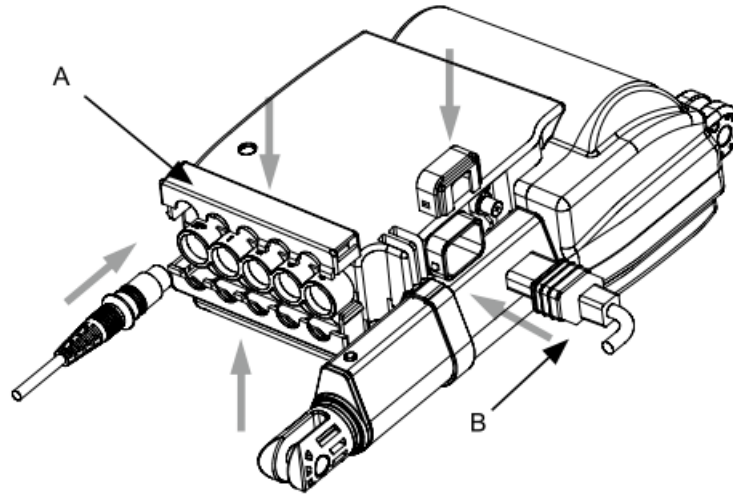

Fig. 3
- b. After inserting connectors of an actuator and a key box , vertically insert back the fixer on LAK4D controller (A) , and then fasten the up fixer and down fixer on LAK4D controller (Fig. 3). Before inserting the main power cord , rotate out the locker (B) along the arrow direction to insert power cord (Fig. 3) and then pull it back (Fig. 3) along the arrow direction.
Please stop turning while the key applied to the knob rotates about 45° , otherwise , the key will be damaged ; the same situation in the opposite direction. Fig. 3. is a reference angle.